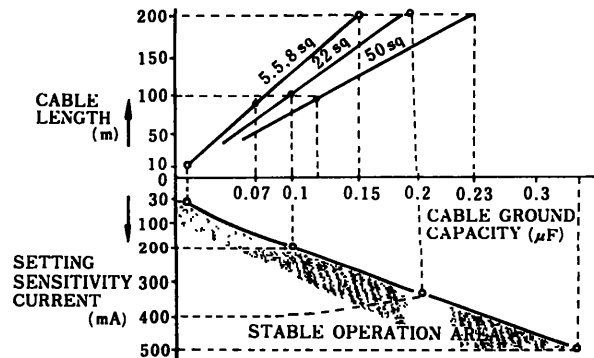

Fig. 9.5 Setting Sensitivity Current
- (1) Minimize the steady zero phase current.
- (2) Set the rated sensitivity current at a high level (200mA, 0.2 seconds as a guide line Fig. 9.5).